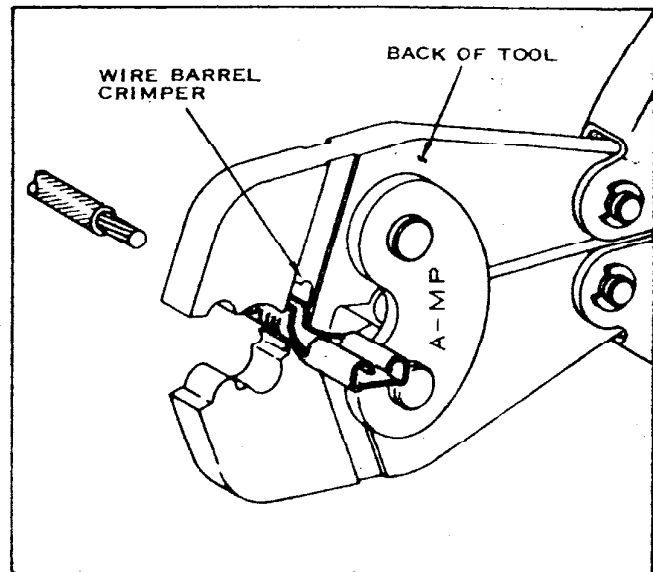

FIGURE 2
1. Open the Tool Handles, and center your terminal's wire barrel in the proper Crimping Section. Figure 2 shows you how.